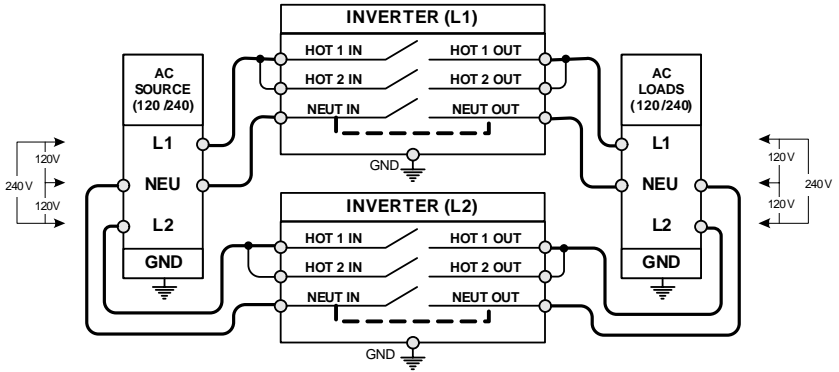

Figure 9, Single In/Single Out (60A with 120/240VAC source)
Figure 9, Single In/Single Out (60A with 120/240VAC source) .....	11
For a Single In/Single Out (60A) connection (see figures 9 and 10), each inverter would require a 120VAC hot conductor (protected by a maximum 60A circuit breaker) connected to the HOT 1 IN terminal and this connection jumpered to the HOT 2 IN terminal. The neutral conductor, which must be sized to handle the total current capacity of the HOT 1 IN conductor, must be connected to the NEUT IN terminal and a ground conductor is connected to the AC ground terminal on each inverter.
**Single In/Single Out (60 Amps)** – Using both inputs (HOT 1 and HOT 2) for the input and output provides up to 60 amps AC pass-thru (30 amps each line). The HOT 1 line passes through the unit and also shares power with the charger. The HOT 2 line passes through the unit without sharing power with the charger. Use this configuration if the output from your AC source provides more than 30 Amps. See figures 9 and 10 below.